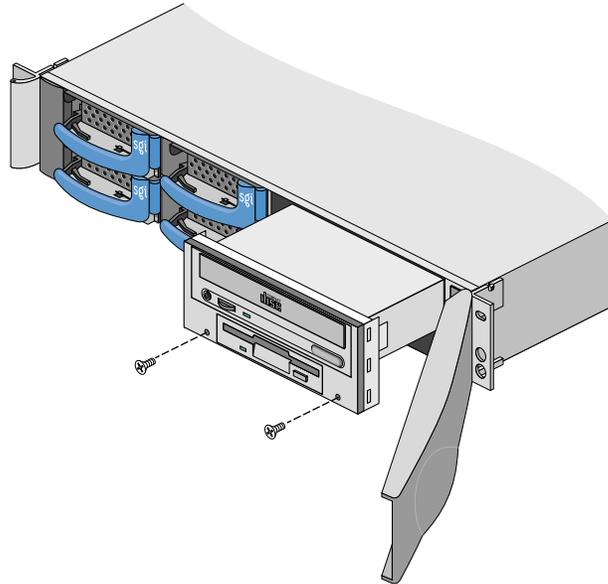

Figure 3 Removing the Floppy/CD-ROM Carrier
3. Remove the floppy/CD-ROM carrier. The floppy/CD-ROM carrier is attached to the chassis by two screws on the front panel. Remove these two front panel screws (see Figure 3) with a #2 Phillips screwdriver.